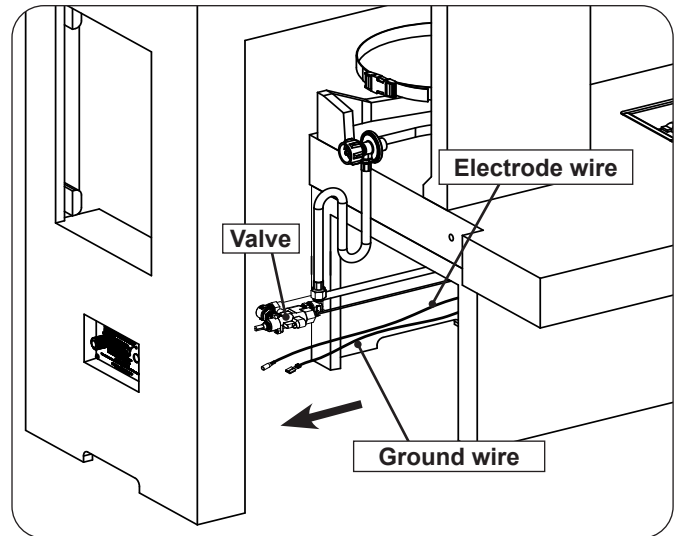

Fig. 23-1 Route valve assembly toward housing
11. Route the valve assembly toward the left of the housing as shown in Fig. 23-1.